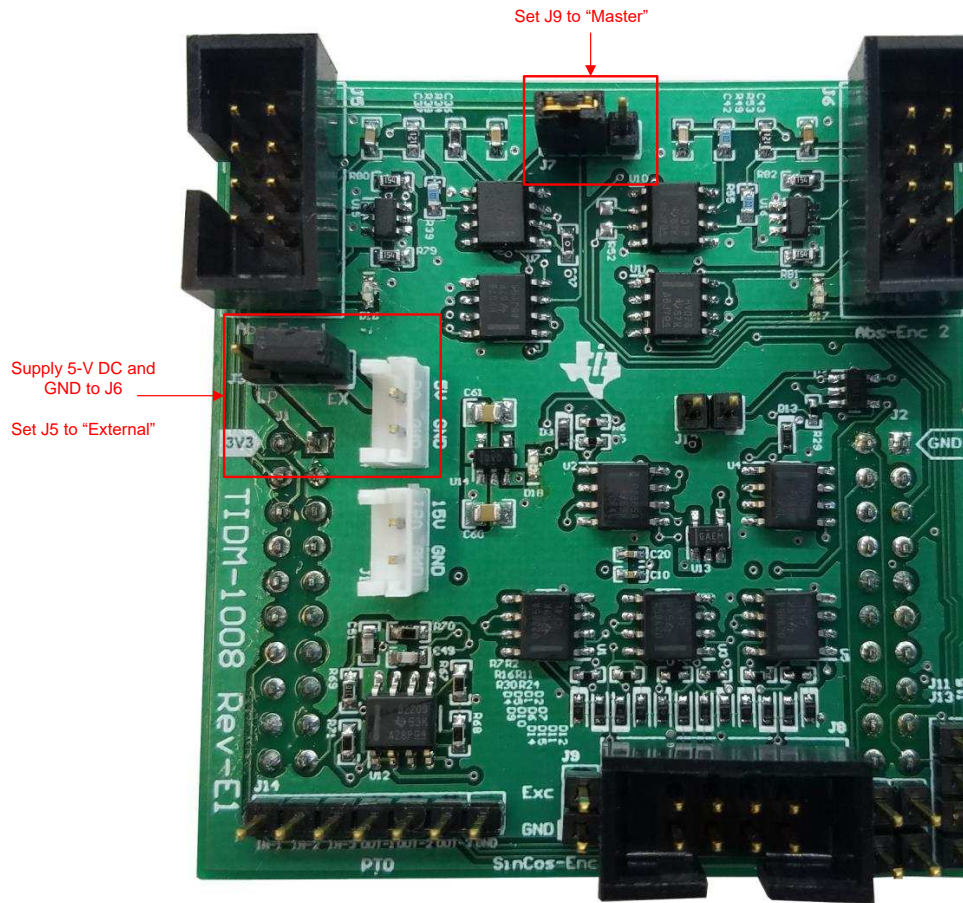
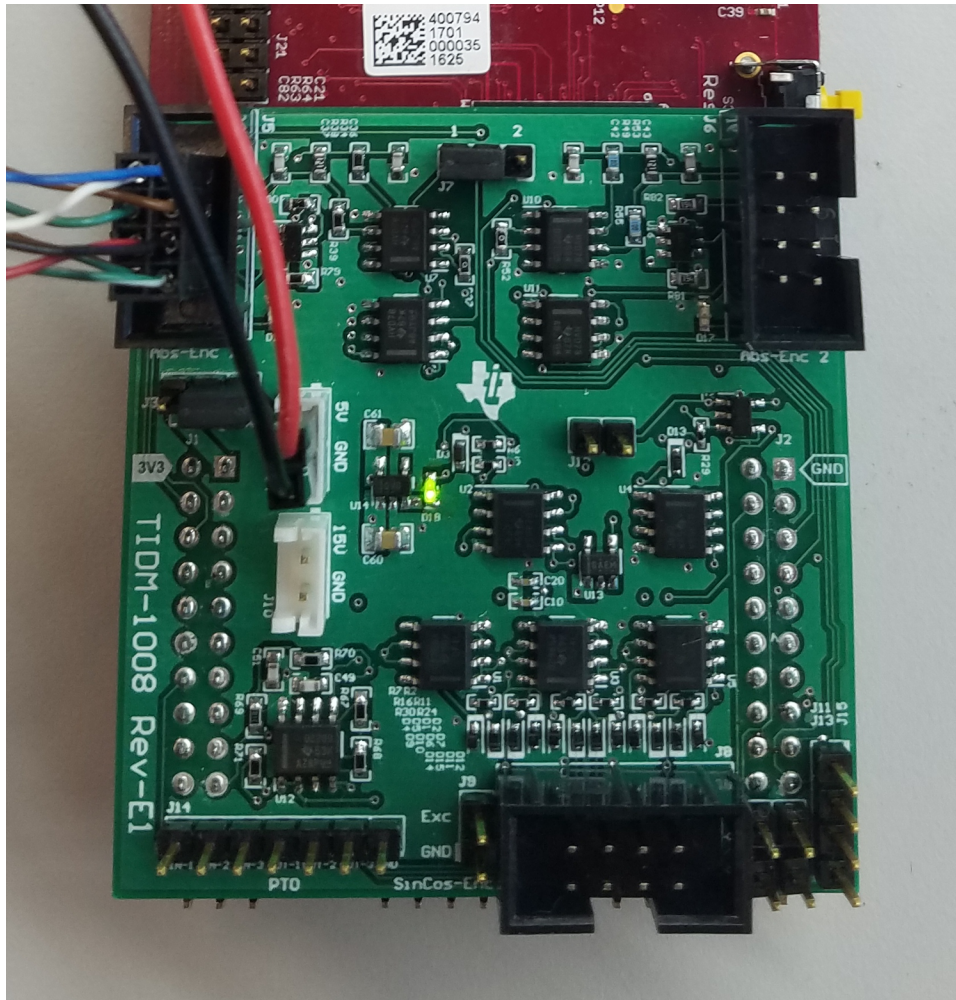

图 5. TIDM-1008 Board Jumper Configuration
图 12. TIDM-1008 Board Powered on and Connected to Heidenehain Encoder
图 5 shows the jumper configuration for TIDM-1008.
⁽¹⁾ This configuration requires providing an external power source to J6 as shown in 图 5.
- Supply 5-V DC and GND to J6 as shown in 图 5. The board should now look like 图 12. LED D18 should light, which shows that the board has power.